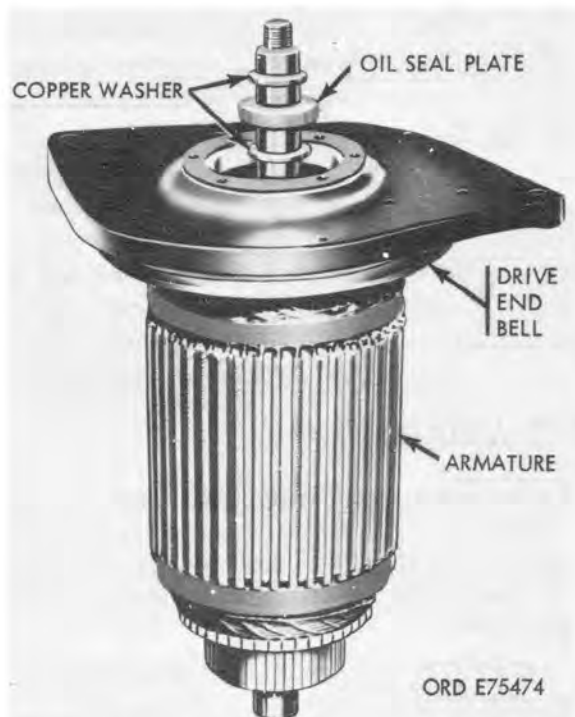

Figure 4-23. Installing washers and spacer.
*c.* Install copper washer (step 3, fig. 4-5), oil seal plate and copper washer on shaft as shown in figure 4-23. Position components against bearing using improvised end bell bearing installing tool.